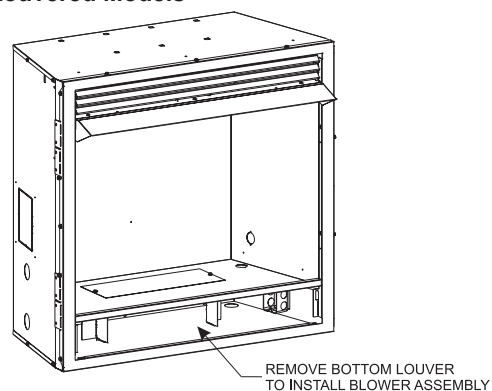

Figure 21 (Deluxe Louvered shown)
1. Determine which type of firebox you have prior to installation. **See Figures 21 through 23.**